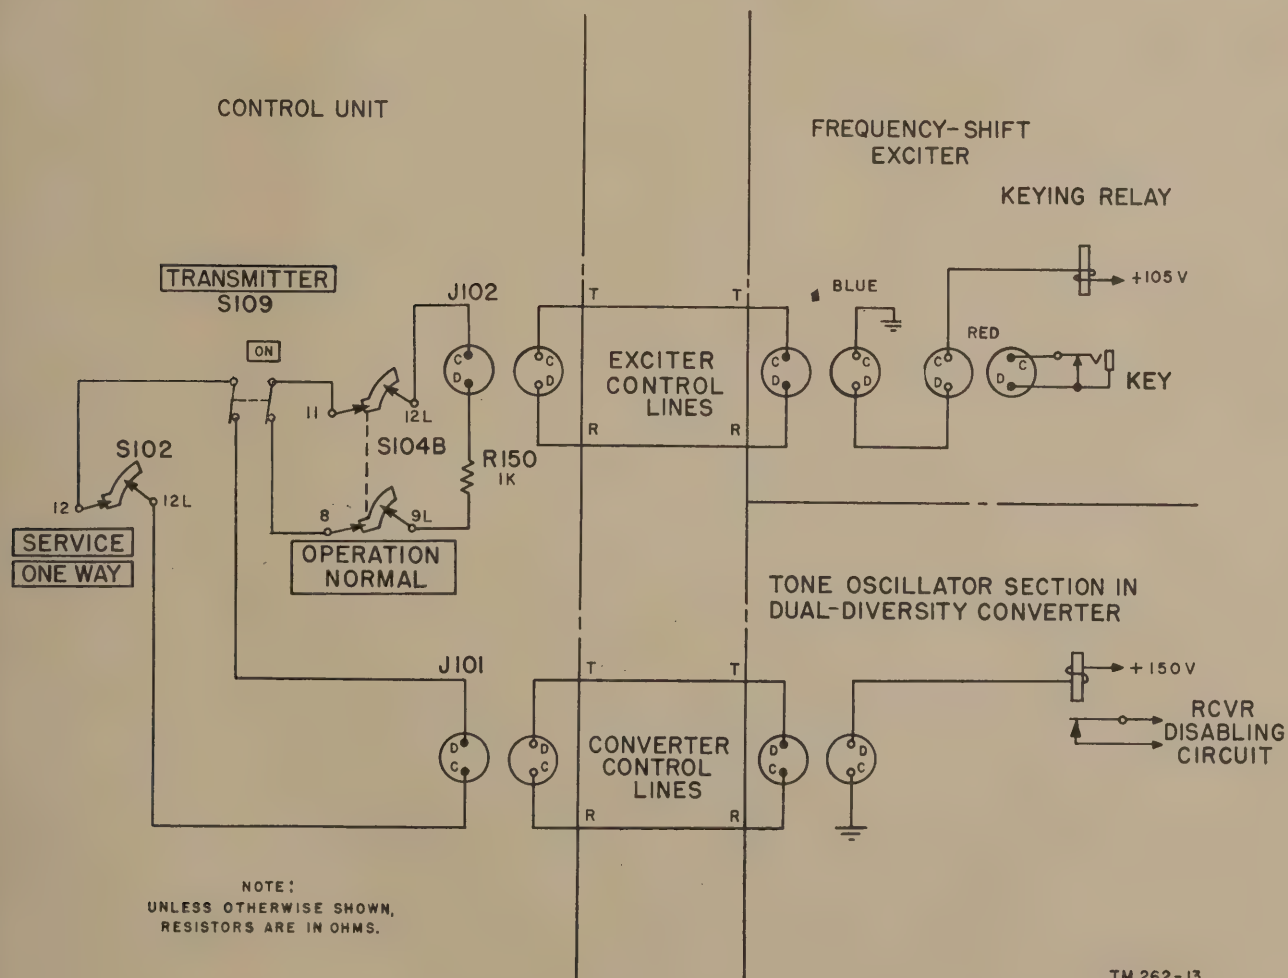

Figure 19. Control unit keying circuits for one-way reversible operation.
d. When the SERVICE switch is rotated to ONE WAY for one-way reversible operation, the extension circuit remains electrically the same as for HALF DX. However, when the SERVICE switch is in the ONE WAY position and the TRANSMITTER key is ON, keying circuits are closed which operate a relay in the tone oscillator of the receiving dual-diversity converter, as shown in figure 19. When this relay is energized, it applies a potential which controls receiver disabling relays in the two radio receivers used with the